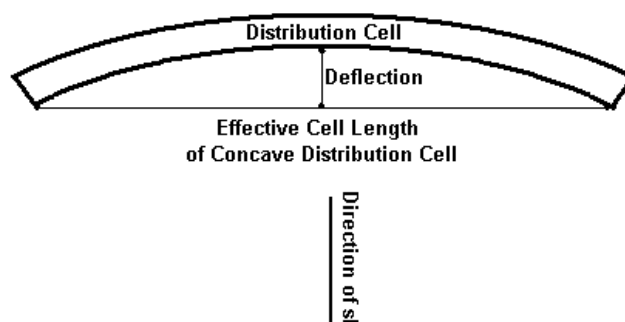

Figure 4– Simple Concave Distribution Cell
2. **Concave Mound Configuration** – the maximum deflection of a concave distribution cell of a mound system is 10%. The percent of deflection of a distribution cell is determined by dividing the amount of deflection by the effective distribution cell length of the concave distribution cell. The deflection is the maximum distance between the down slope edges of a concave distribution cell to the length of a perpendicular line along the down slope edge of the distribution cell. The effective distribution cell length of the concave distribution cell is the distance between the furthest points along the contour line of the down slope edge of the concave distribution cell. See Figures 4 and 5.